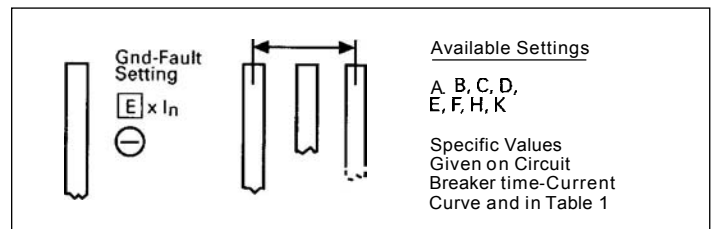

Figure 18. Ground Fault Current Settings.
The eight (8) Ground Fault "Pick-up" Current Settings are labeled with the code letters "A" through "K" (except there are no "G" or "I" settings), as illustrated in Figure 18. In general, the specific current settings range from 0.25 to 1.0 times (I_n), the rating plug value, but cannot exceed 1200 A. The specific Ground Current Settings for each letter are listed in Table 4 and on the (G) Time-Current Curve applicable for the circuit breaker (see Section 6).